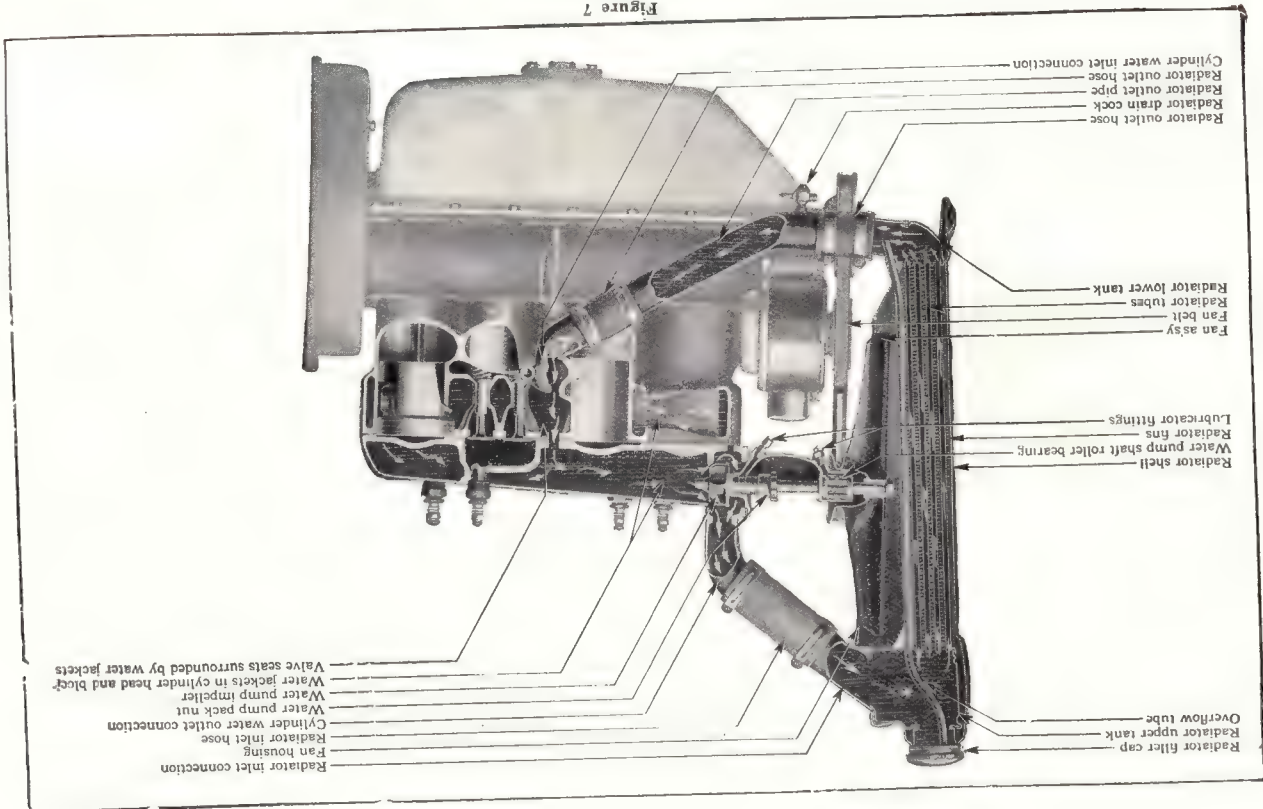

Figure 7
The function of the cooling system is to prevent damage to the working parts by counteracting the heat generated by explosions of fuel in the cylinders. In the Model "A" circulation of water is by Thermo-Syphon System and centrifugal water pump. Thermo-Syphon is simply the principle that hot water rises allowing cold water to take its place. Thus when the engine is started the water around the cylinders flows up to the upper radiator tank, down through the radiator where it is cooled by a rush of air and then into the cylinder jacket again. (See Fig. 7.) This circulation is assisted by the pump located in the cylinder head.
2. At regular intervals drain and flush the system. To do this open the drain cock in the bottom outlet pipe and run clean water in the filler tube until it flows out clear at the bottom. Then close the drain cock and fill the system. (See Fig. 7.)
3. Regularly lubricate the water pump and fan shaft through the alemite fittings. (See Fig. 7.)